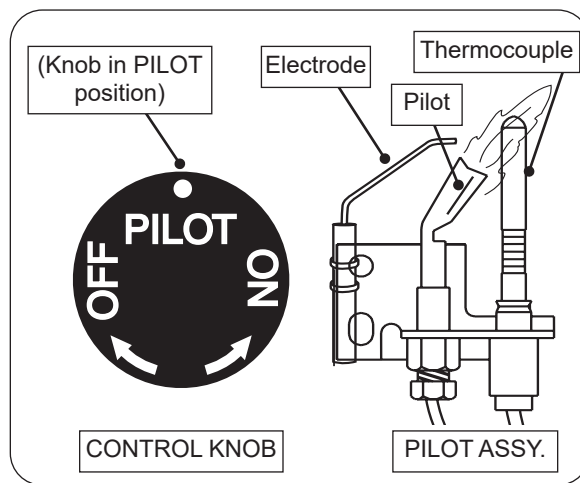

Fig. 32-1 Pilot lighting
3. Locate the pilot assembly on the side or rear of the burner pan (see Fig. 32-1).
4. Turn the control knob counterclockwise to **PILOT**. Push the knob **firmly and fully** in and hold. Push the piezo igniter button several times until the pilot lights. Continue to hold the knob in for about one (1) minute after the pilot is lit. Release the knob and it will pop back out. The pilot will remain lit. See Fig. 32-1. If it goes out, repeat steps 2-4.